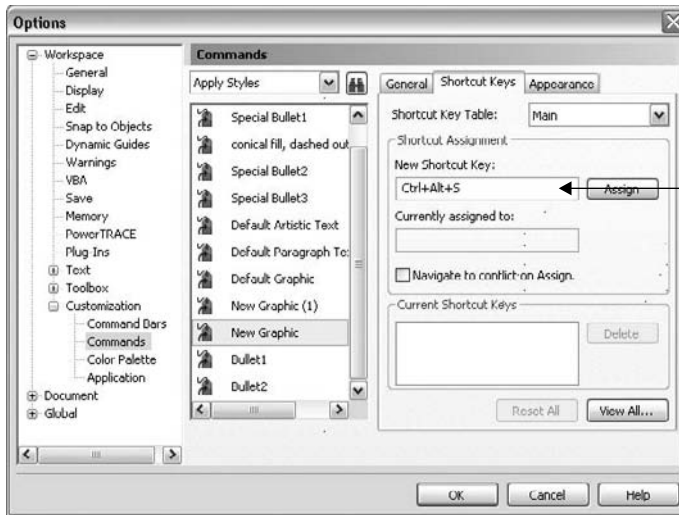

FIGURE 12-11 The Options dialog opens to the Shortcut Keys tab.
- **Edit Hot Keys** To apply your most frequently used styles quickly, assign hot keys to them. *Hot keys* are keyboard shortcuts that instantly apply the style. To assign or edit a hot key, click to select a graphic style, and choose Edit Hot Key from the flyout menu. Doing this opens the Options dialog to the Shortcut Keys page, shown in Figure 12-11. To assign a hot key after choosing this command, click your cursor in the New Shortcut Key box, press the actual keyboard shortcut you want to apply as the new hot key assignment (just press your keyboard keys, *don't type* "Ctrl" if you want CTRL as part of the key combo), click the Assign button, and then click OK to close the dialog.